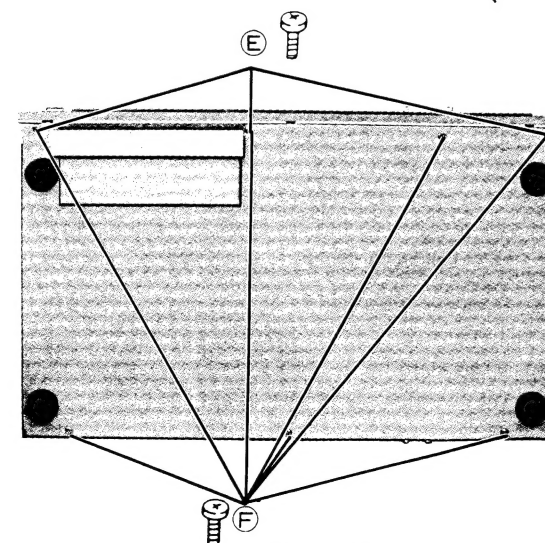

Figure 12
3. Remove three screws (E) (3φ x 8mm) from the bottom side of the unit. (See Figure 12).
1. Remove seven screws (F) (3φ x 8mm) from the bottom side. (See Figure 12)